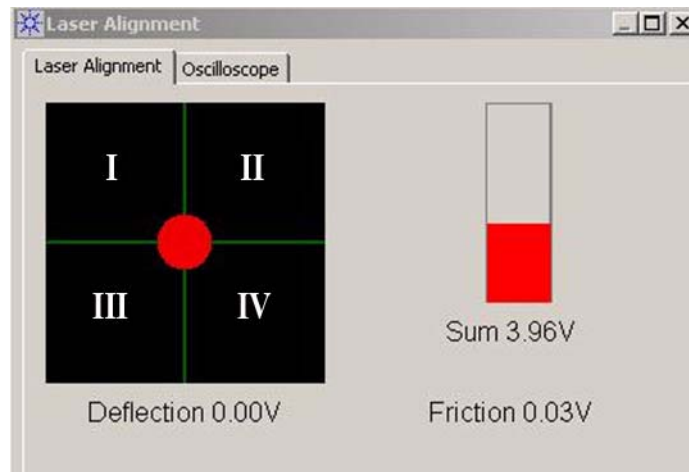

Figure 56 Laser Alignment window in PicoView
- 1 Launch PicoView. The Laser Alignment window (as well as other windows) will open, displaying the position of the laser spot on the photodiode detector (Figure 56). You can also click the **Laser Alignment** toolbar button to open the window. The meter to the right shows the Sum of all four quadrants. The Deflection signal is the difference between the top and bottom halves divided by the Sum.